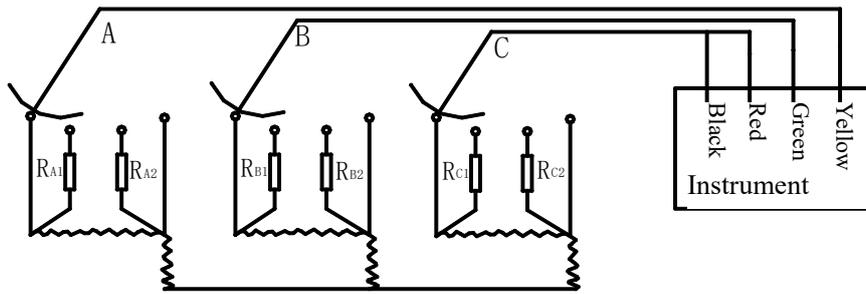

Figure 18 Wiring diagram in case of simultaneous measurement of two phases
3.2. The wiring diagram during simultaneous test of two phases is shown in Figure 18: